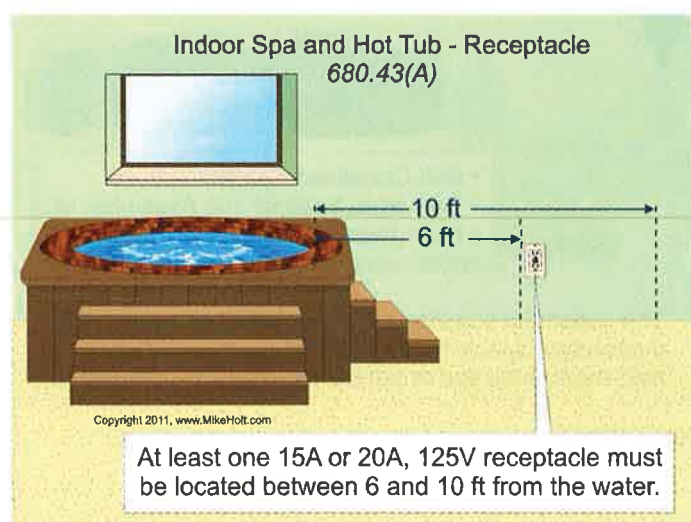

Figure 680-41
(A) Receptacles. At least one 15A or 20A, 125V receptacle must be located at least 6 ft, but not more than 10 ft, from the inside wall of the spa or hot tub. **Figure 680-41**